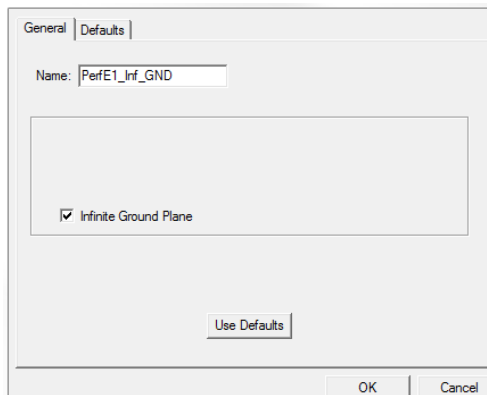

Figure 13. Perfect E Boundary dialog box
- 4 Edit the fields as shown in Figure 13 and click **OK**.